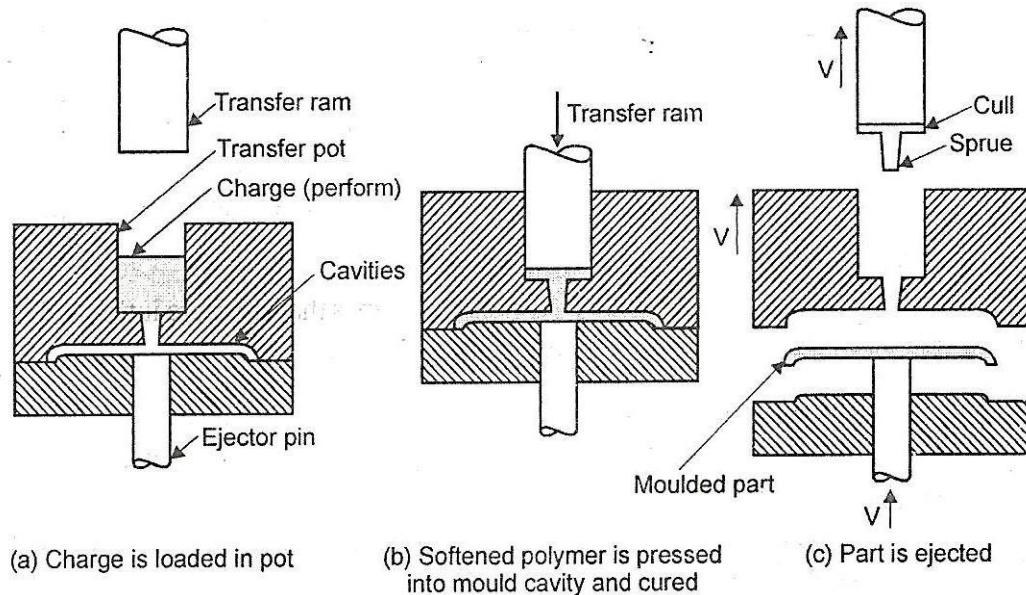

Figure 5.3 Transfer Moulding
- ✓ The material is generally in a preheated form and placed in a heated transfer pot. Refer Figure 5.3.